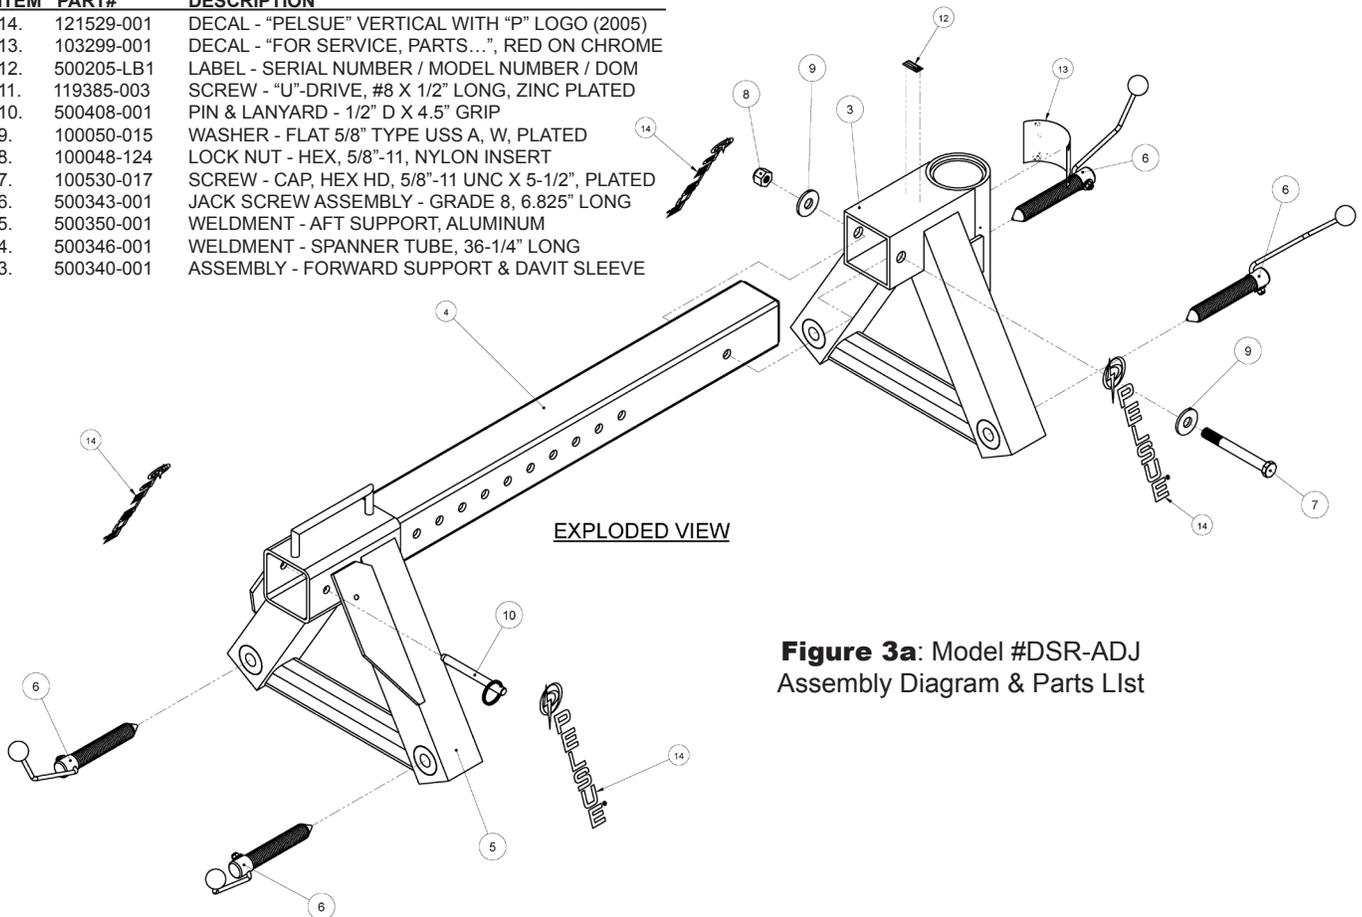

Figure 3a: Model #DSR-ADJ
3. Slide aft support (item #5) onto the spanner tube (item #4) opposite of the head assembly, so that it is oriented as shown in figure 3a. Pin in place with detent pin (Item #10), the detent pin should be secured to the aft support (item #5) via a lanyard.
4. Thread clamping screws (item #6) into the head assembly (item #3) and the aft support (item #5) at the inserts, so that the pointed ends are directed inwards as shown in figure 3a.